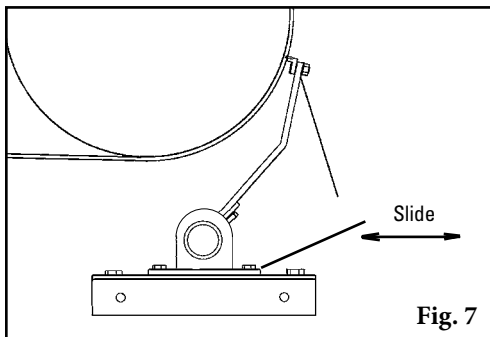

Fig. 7
9. **Position the pole.** Rotate pole upward to bring tips into contact with head pulley (Fig. 7). Center the tips across the belt. While applying light pressure on the center tip, shift loosened bearing mount until tips are contacting belt evenly across full width. Lock cleaner into this position by tightening bearing mount bolts.
- 7. Position the pole.** Rotate pole upward to bring tips into contact with head pulley (Fig. 7). Center the tips across the belt. While applying light pressure on the center tip, shift loosened bearing mount until tips are contacting belt evenly across full width. Lock cleaner into this position by tightening bearing mount bolts.